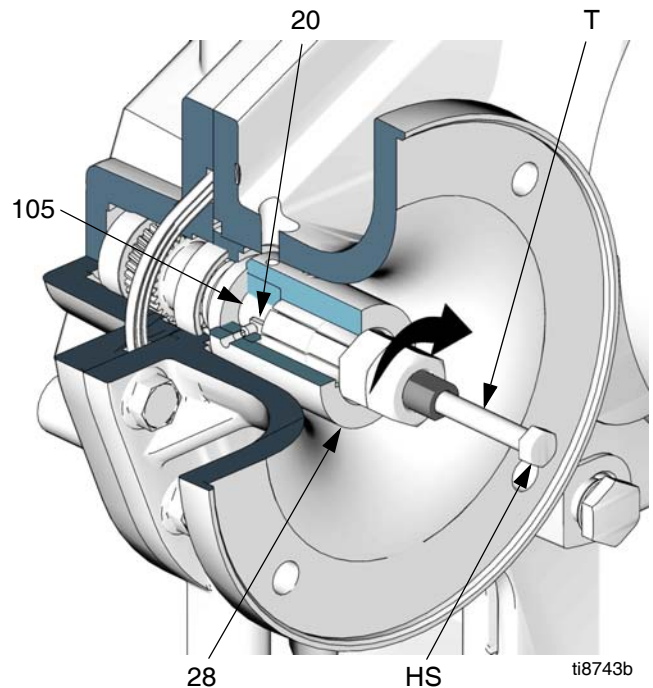

FIG. 24. Motor Coupler Removal
4. See FIG. 24. Loosen both setscrews (31). Insert the coupler removal tool (T) into the coupler (28). Turn nut clockwise until tight, then pull the coupler off the gear reducer input shaft (105) by turning hex-head screw (HS) clockwise.
NOTE: During the following procedure, if the coupler becomes separated from the motor shaft but remains stuck on the input shaft, use the 15J827 coupler removal tool (T) as shown in FIG. 24.